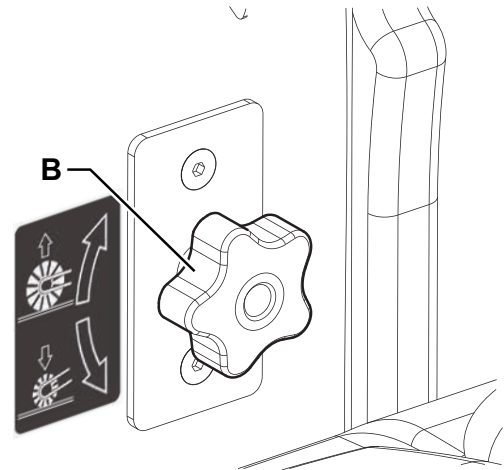

Figure 7
2. Turn the knob (B, Fig. 7) as shown below:
- To decrease the print width, lift the broom with the lever (63) and then turn the knob clockwise